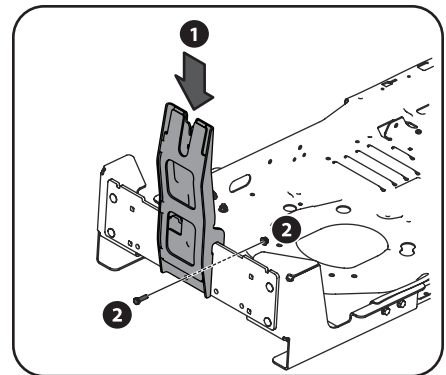

Figure 4-4
3. Install the upright support bracket onto the mounting assembly on the tractor by hooking it over the two tabs as indicated in (1) Figure 4-4.
4. Secure the upright support bracket to the mounting assembly with a (710-0376) hex bolt and (712-04063) flange lock nut from hardware pack (689-00567). See (2) Figure 4-4.